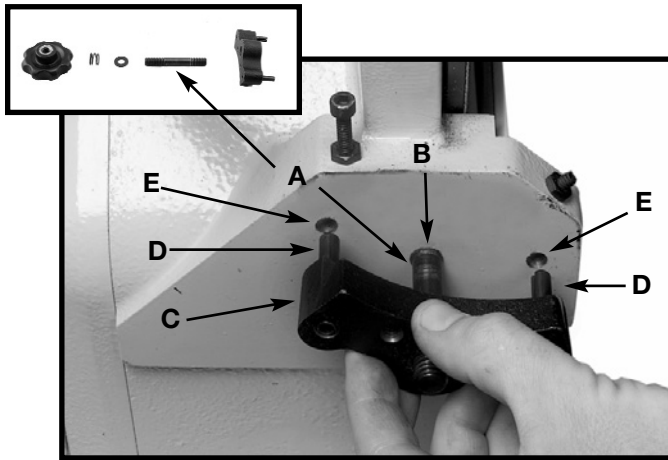

Fig. 12
1. Thread the disc table trunnion stud (A) Fig. 12 into the hole (B) on the side of the machine and tighten snug.
2. Place the disc table trunnion clamp (C) on the stud and insert the two pins (D) in the two holes (E).
3. Attach the washer, spring, and knob (Inset - Fig. 12)